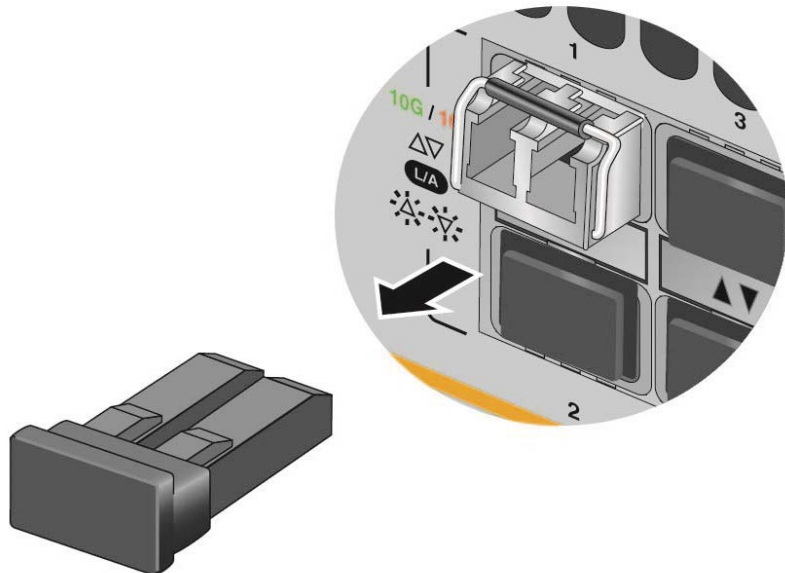

Figure 57. Removing the Dust Cover from an SFP or SFP+ Transceiver
5. Remove the dust cover from the transceiver, as shown in Figure 57.